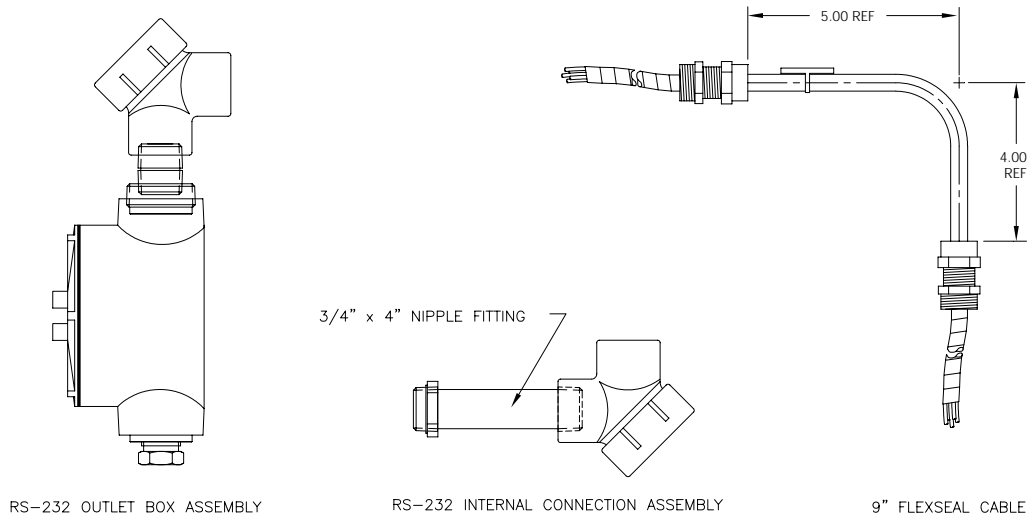

Figure 15 RS-232 Option Assemblies
- 2) Beginning with the Internal Assembly, insert the nipple fitting end through the mounting hole from the inside to outside (see Figure 15).